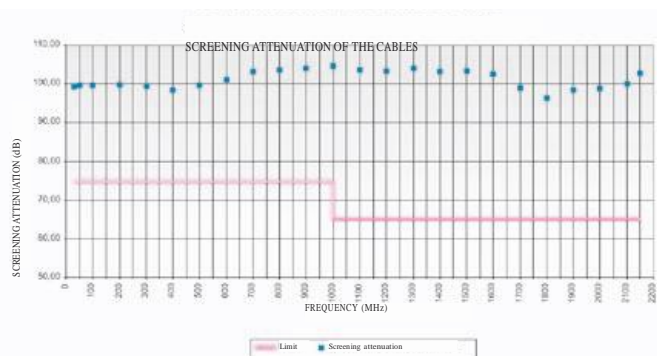

Fig.1 Graph of screening attenuation.
■ **Braid interlacing:** the interlacing is one of the characteristics that can influence more the quality of the shielding. Its effectiveness can be measured by the screening attenuation (Fig.1).